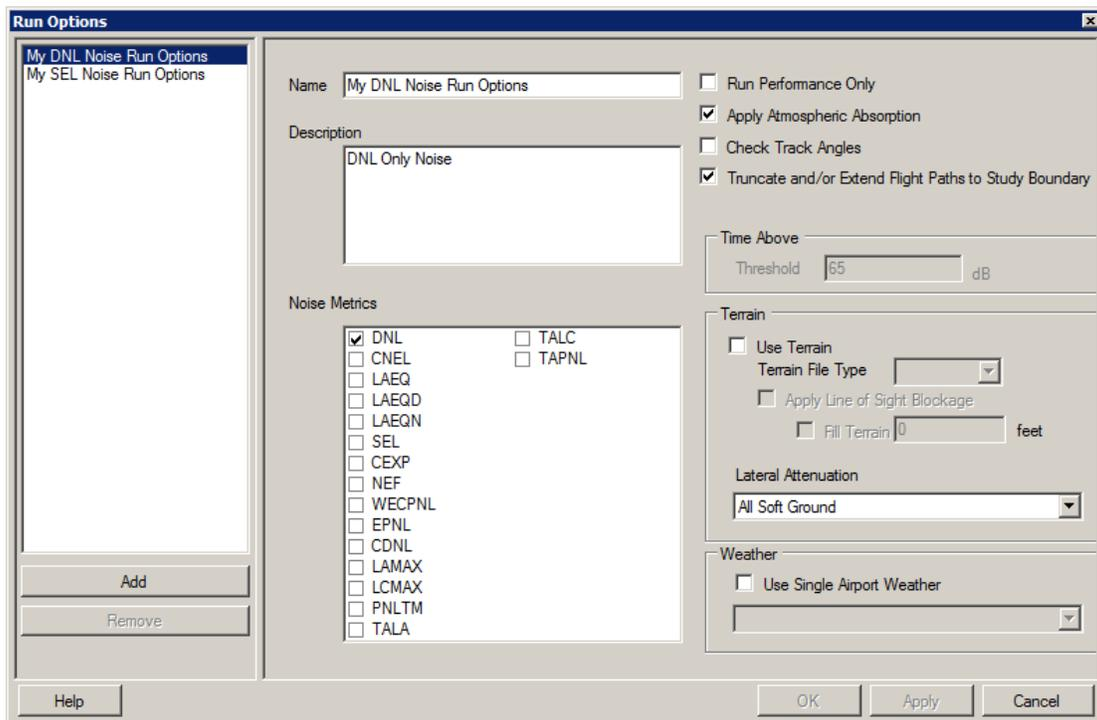

Figure 7-2 Run Options Dialog Box
1. In the *Run Options* dialog box (Figure 7-2), the left panel lists existing run options. To edit, select a run option from the list.